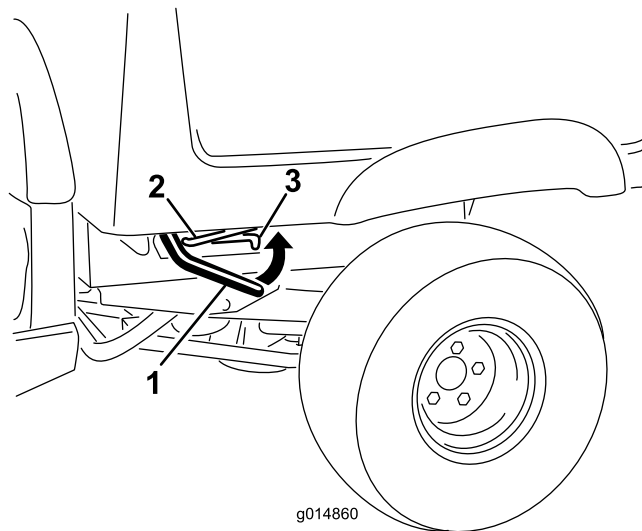

Figure 12
1. Lift the lever on either side of the box and lift the box up (Figure 12).
2. Pull the prop rod into the detent slot, securing the box (Figure 12).